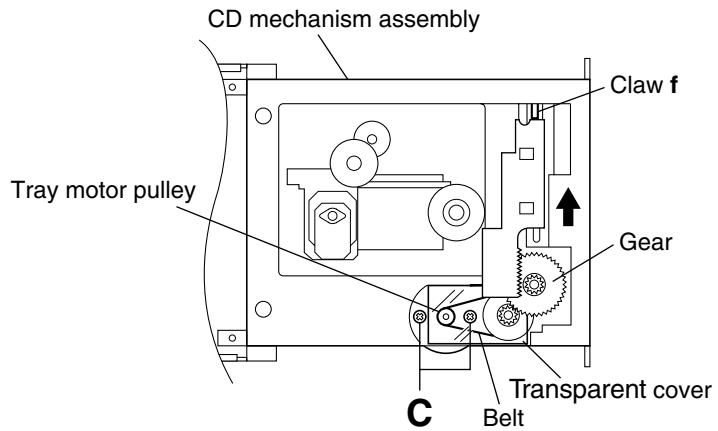

Fig.7
- 5. While pushing the claw **f** on the CD mechanism assembly downwards, slide the elevator fully in the direction of the arrow. (See Fig.7.)
- 6. Lift the gear slightly, remove the transparent cover. (See Fig.7.)
- 7. Remove the belt from the tray motor pulley. (See Fig.7.)
- 8. Remove the two screws **C** retaining the tray motor and remove it from the bottom side of the CD mechanism assembly. (See Fig.7.)